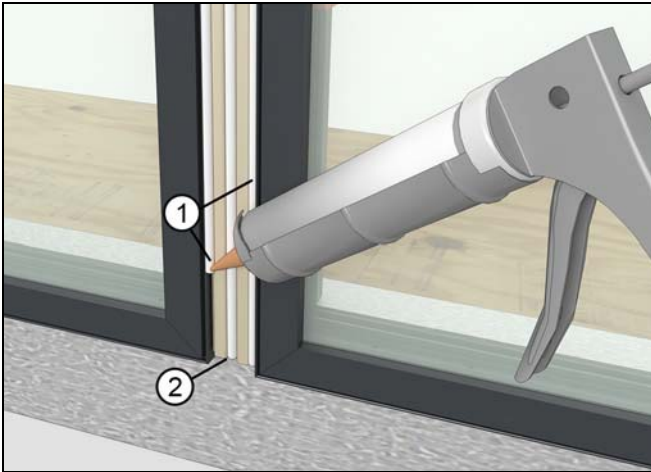

Figure 102
23. Apply three beads of sealant over the mull fillers- one on each side (between the fillers and frame) and one in the middle. See Figure 102.